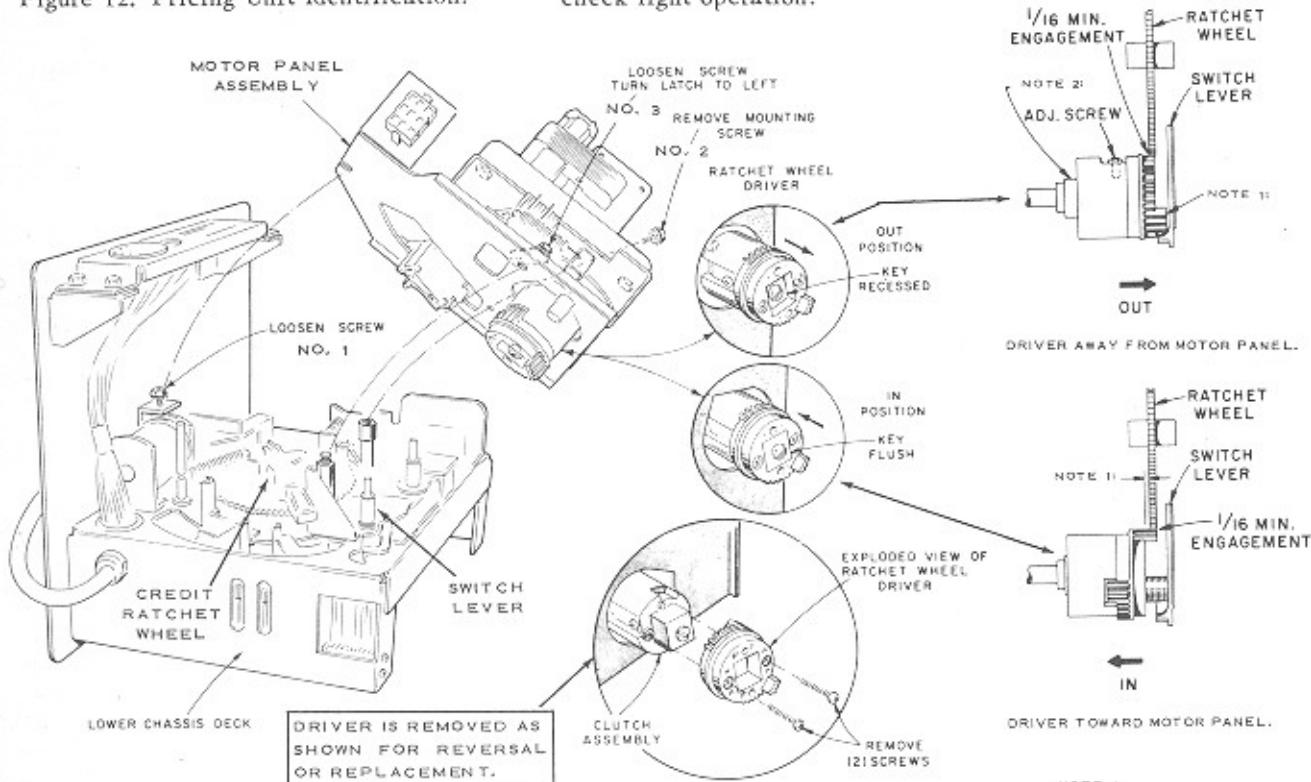
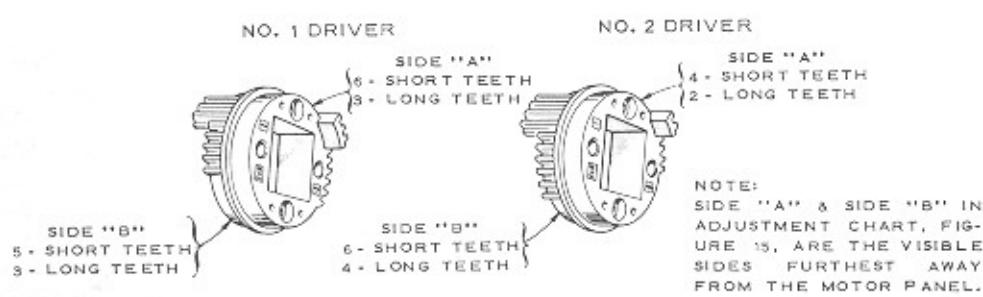

Figure 13. Motor Panel Disassembly
Figure 14. Ratchet Wheel Driver Identification.
Remove the motor panel before proceeding with price change adjustments. Loosen screw No. 1, remove screw No. 2, loosen screw No. 3 and turn latch to the left as shown in Figure 13. Unplug the motor panel assembly and remove from the lower chassis deck.
** RATCHET WHEEL DRIVER "IN" AND "OUT" POSITIONS ARE ILLUSTRATED IN FIGURE 13, SIDES "A" AND "B" ARE IDENTIFIED IN FIGURE 14.